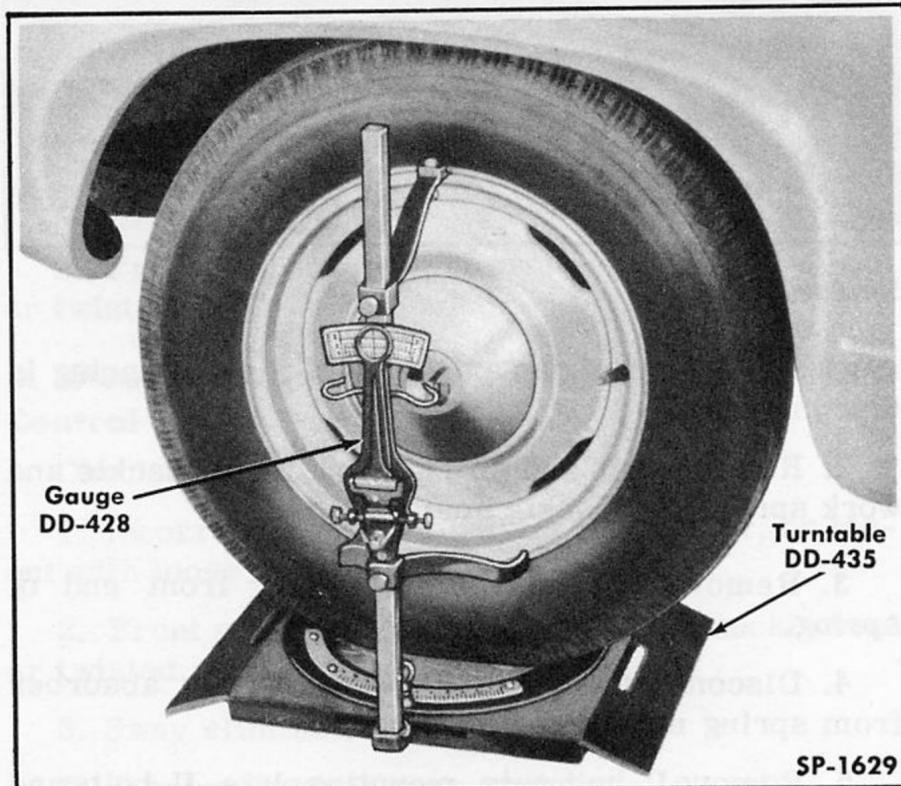

Fig. 170—Checking King Pin Inclination
2. Mount Universal Camber and Caster Gauge DD-428 on left front wheel, as shown in Fig. 170, with quadrant parallel to wheel and gauge supported on edge of wheel rim. The gauge must be mounted on the wheel so that the level bubble indicates level with hairline on "zero" and indicator aligned on scratch line.